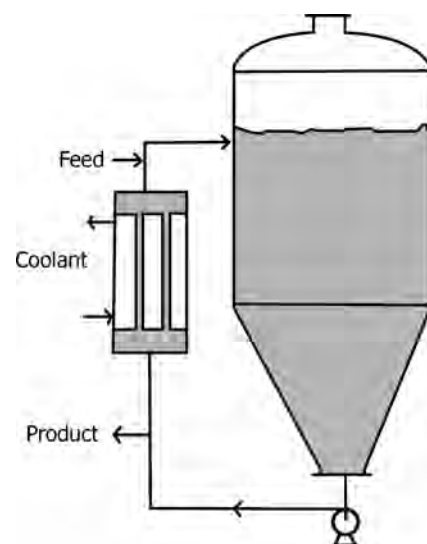

FIGURE 18.3 Cooling crystallizer.
- Figure 18.3 illustrates the operation of cooling crystallizer.